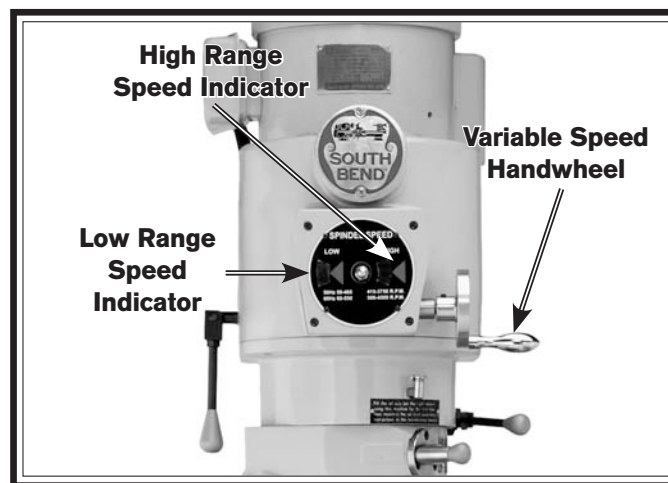

Figure 34. Model SB1024 variable spindle speed handwheel and indicator windows.
2. Slowly rotate the speed handwheel shown in **Figure 34** until the desired speed is displayed in the speed indicator window for the speed range selected.